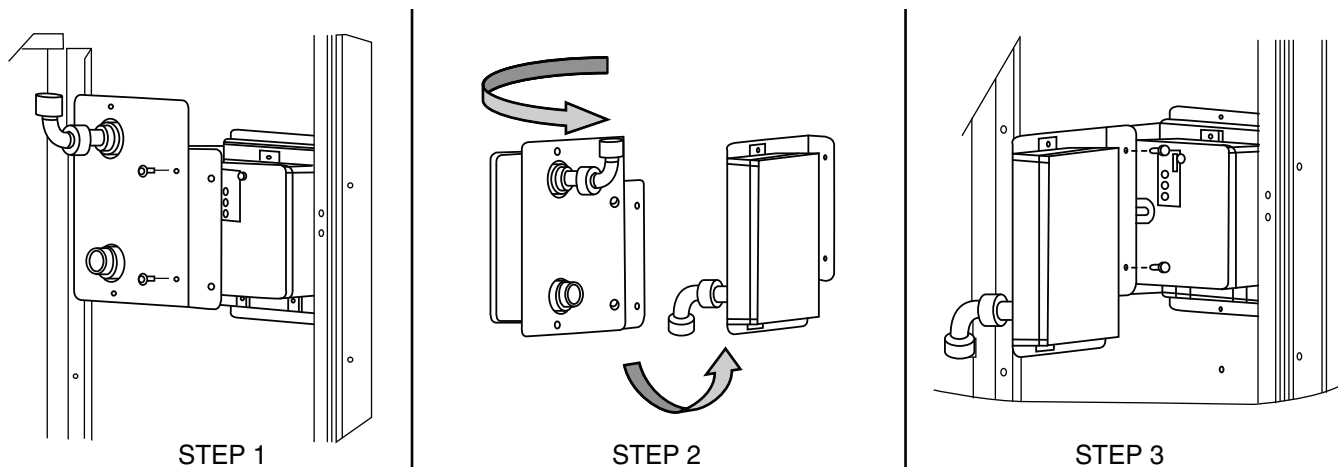

Fig. 79 — Completing Installation of Return Air Smoke Sensor
1. Unscrew the two screws holding the return-air smoke detector assembly. See Fig. 79, Step 1.
3. Turn the assembly 90 degrees and then rotate end to end. Make sure that the elbow fitting is pointing down. See Fig. 79, Step 2.
4. Screw the sensor and detector plate into its operating position using screws from Step 1. See Fig. 79, Step 3.